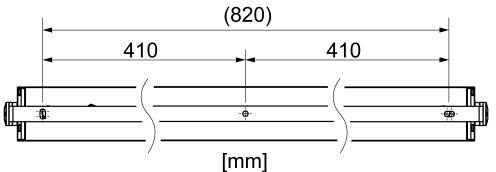

Figure 2: Drilling dimensions
- To install the luminaire, first loosen the side clamping discs (3) using a TORX 30 pin wrench and remove the retainer clamp (5) from the luminaire housing (1).
- Fit boreholes (Figure 2).
- Fasten the retainer clamps (5) to the installation substrate using two suitable screws.
- Insert the luminaire housing (1) into the retainer clamp (5).
- Push on the clamping discs (3) on both sides of the retainer clamp and hand-tighten the screw using a TORX 30 pin wrench.